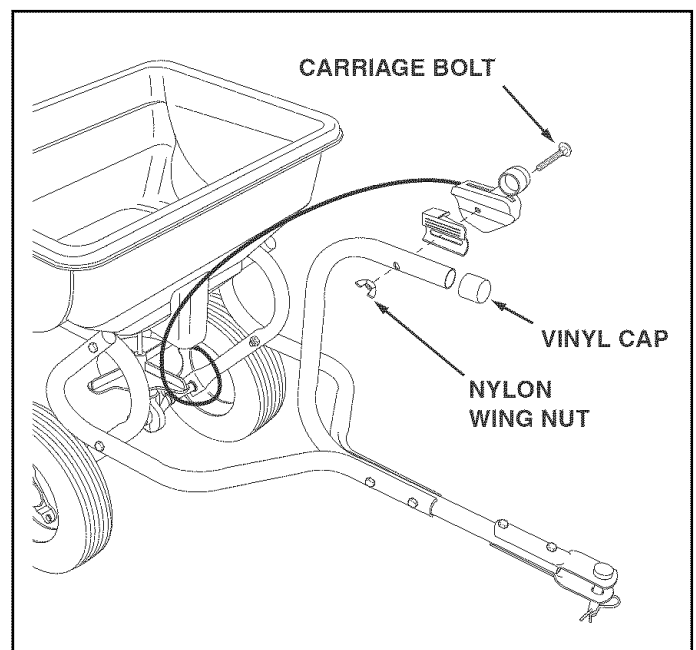

FIGURE 4
- Assemble the vinyl cap onto the Hitch Control Tube. See figure 4.
- Assemble the Control Cable to the Hitch Control Tube using the carriage bolt and nylon wing nut. See figure 4.